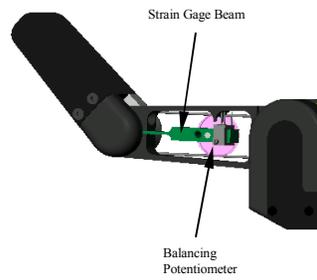

Figure 24 - Balancing Potentiometer
5. Adjust the balancing potentiometer using a small flat head screwdriver until the desired value is reached. The balancing potentiometer requires very small adjustments, due to its sensitivity. Apply as little pressure as possible on the balancing potentiometer during adjustment. See Figure 24.